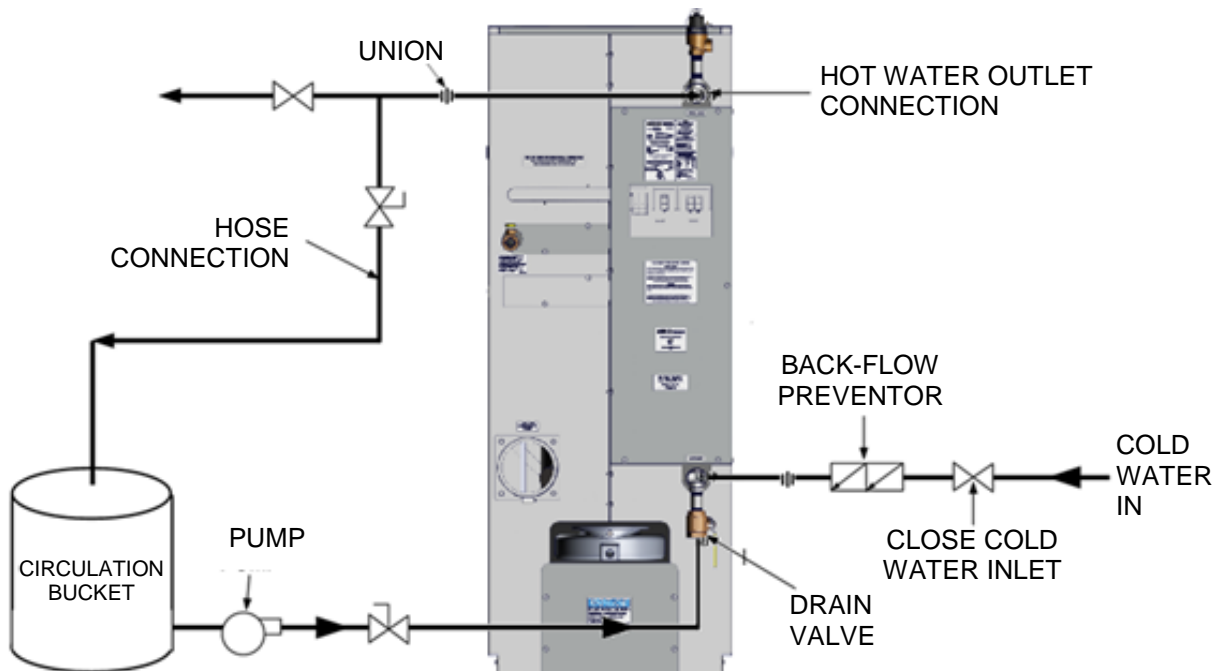

Figure 6-8. Sample Heat Exchanger Cleaning Set-Up
A sample pumping set-up diagram is shown in Figure 6-8 for an Innovation Water Heater. As this diagram shows, heat exchanger cleaning is accomplished by pumping the HydroSkrub solution from a large circulating bucket to the heat exchanger drain valve, through the heat exchanger and then out through the output connection of the heater. Set up the pumping system as follows:
5. Close the unit drain valve and connect a suitable size bucket and pump to the unit drain as shown in Figure 6-8.
6. Install a “T”, ball valve and hose connection in the outlet piping of the heater (Figure 6-8). Route the hose back to the top of the circulation bucket.